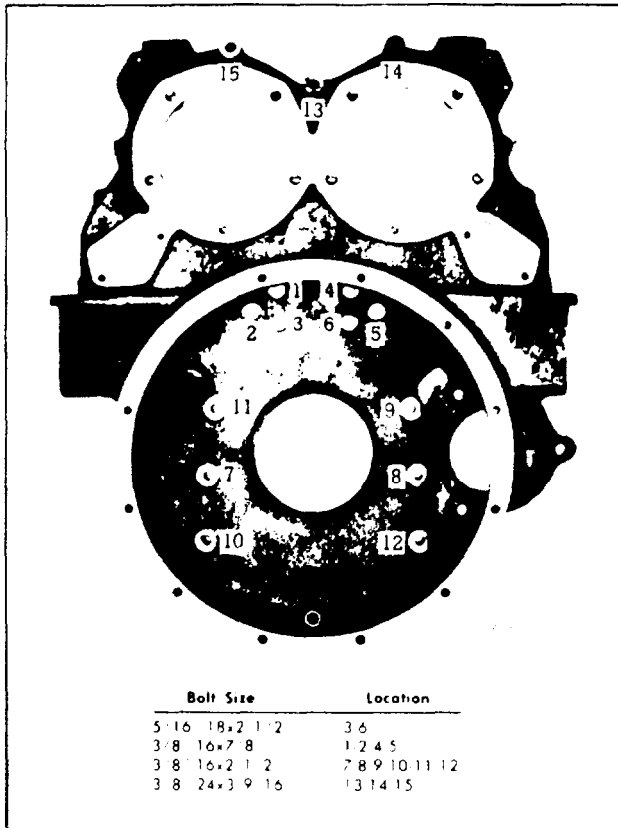

Fig. 3 - Flywheel Housing Bolt Sizes and Tightening Sequence (Operation 1)-In-Line Engine
**NOTE:** Prior to Engine Serial Number 3D-011 the bolts numbered 7 through 12 in Fig. 3 were all 5/16"-18 bolts and must be tightened to 19-23 lb-ft torque.
housing, do not install the six bolts numbered 7 through 12 (Fig. 3) until the clutch housing is installed.
8. On an In-line right hand rotation engine, start at No. 1 and draw the bolts up snug in the sequence shown in Fig. 3.